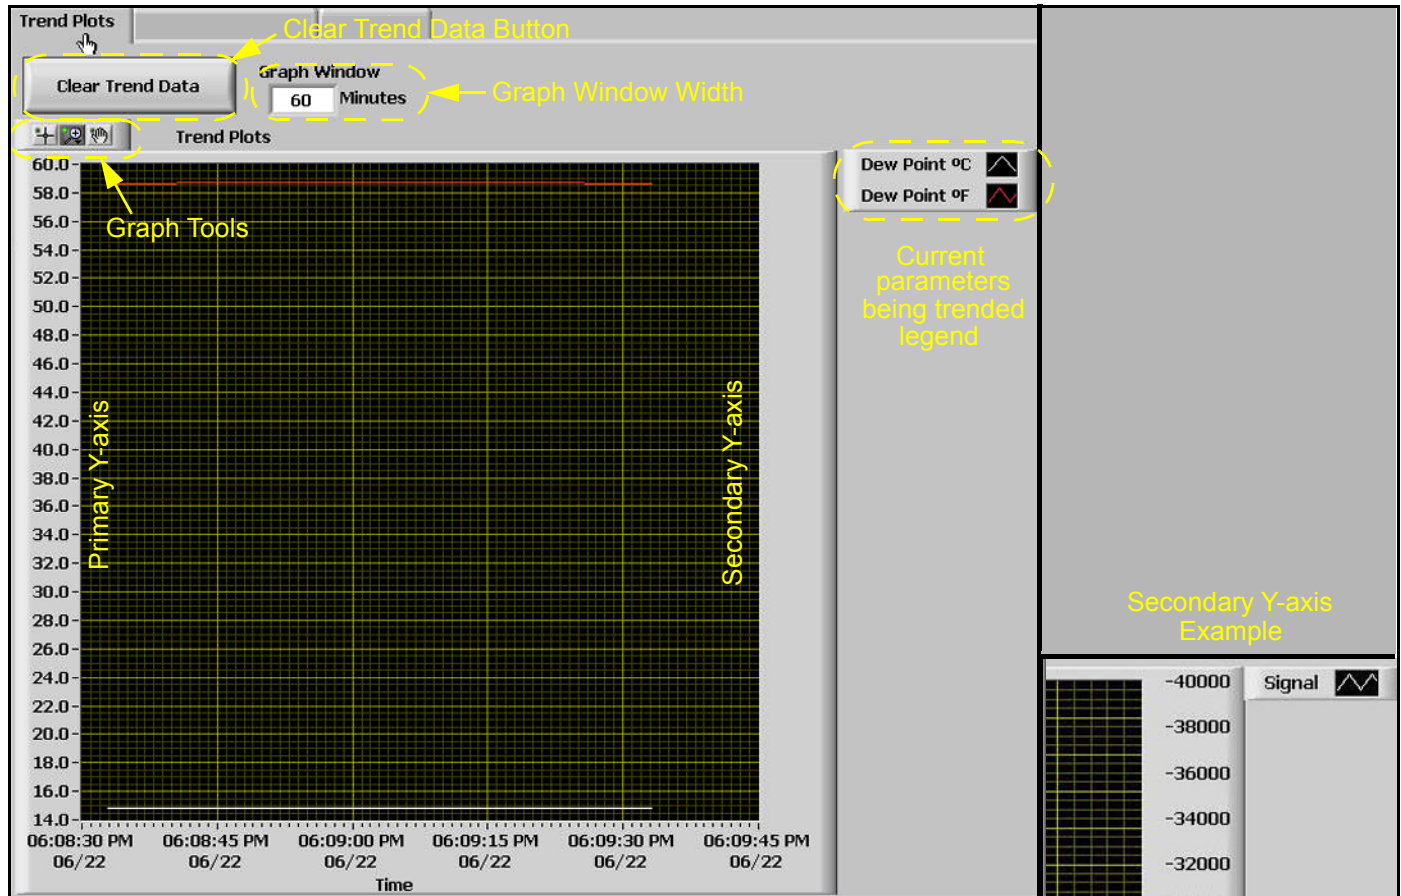

Figure 68: Using Trend Plots
1. Trend Plots is a powerful graphing feature in **AuroraView**. You can graph many parameters at the same time (see *Figure 68* below).